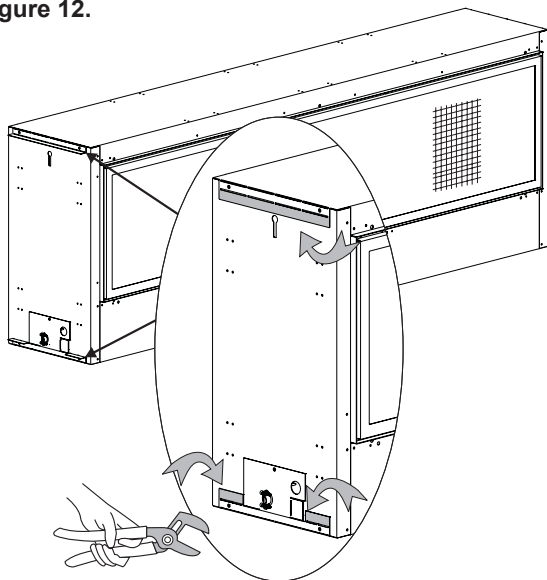

Figure 12
1. At the top and bottom of the fireplace, use pliers to bend each side standoff 90 degrees away from the cabinet. See **Figure 12**.